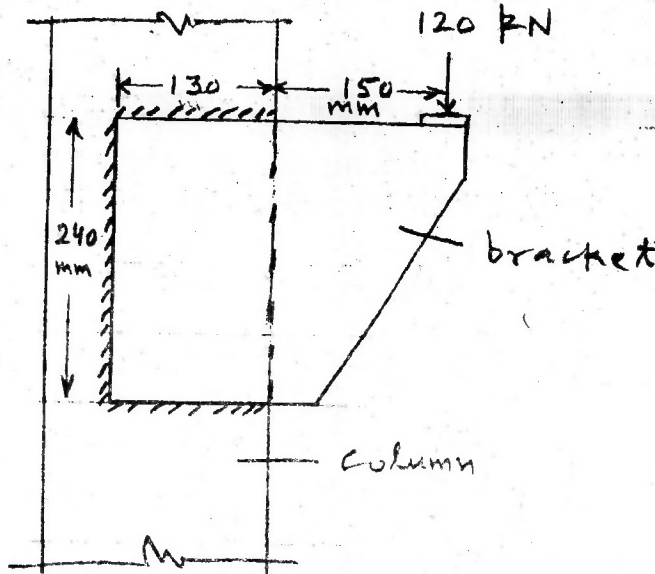

Fig 2.
- (b) Calculate the size of weld required to support a factored load of 120 kN applied at a distance of 150 mm from the edge of the flange of column, on a plate bracket as shown in Fig.2.